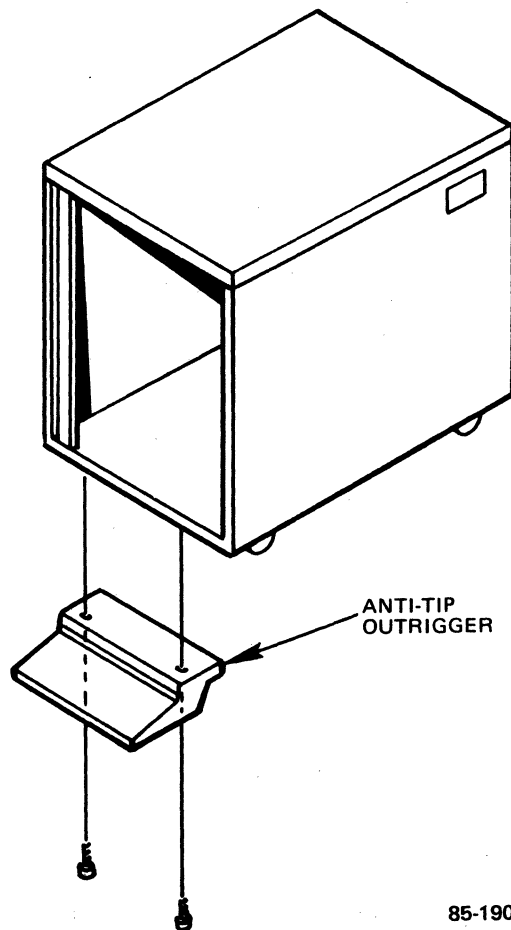

Figure 2-8. Anti-Tip Outrigger
4. Locate the anti-tip outrigger kit (60134360-004). Install the two hex screw caps to the anti-tip outrigger, then install the anti-tip outrigger to the cabinet as shown in Figure 2-8. Tighten the screws into the cabinet so that the front of the cabinet rests on the anti-tip outrigger and not on the casters.
2. Ensure that the anti-tip outrigger (see Figure 2-8) is in place. If the anti-tip outrigger is not in place, install it as described in subsection 2.1.2, step 4.